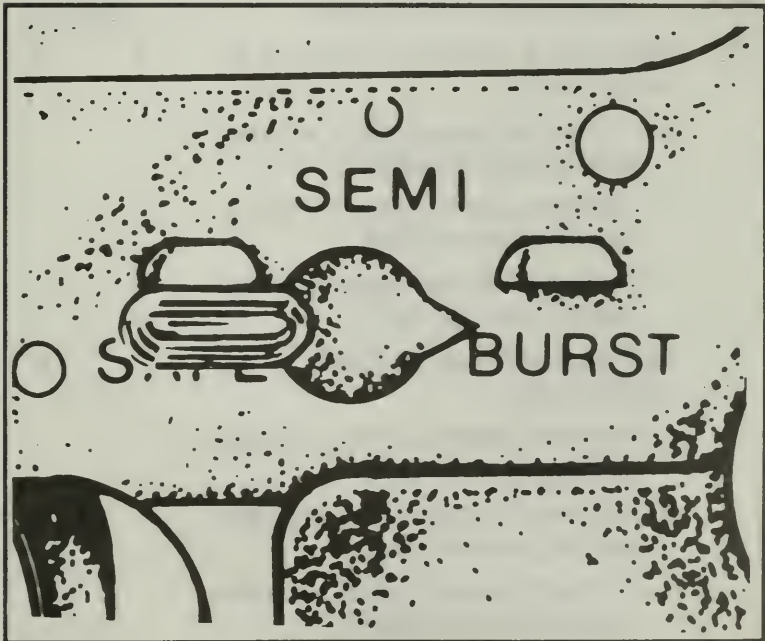

Figure 93. Selector on BURST.
c. BURST. Place the selector lever on BURST (Figure 93). Pull the charging handle to the rear and release. Pull the trigger and hold to the rear; the hammer should fall. Pull the charging handle to the rear three times and release. Release the trigger and pull it again; the hammer should fall.